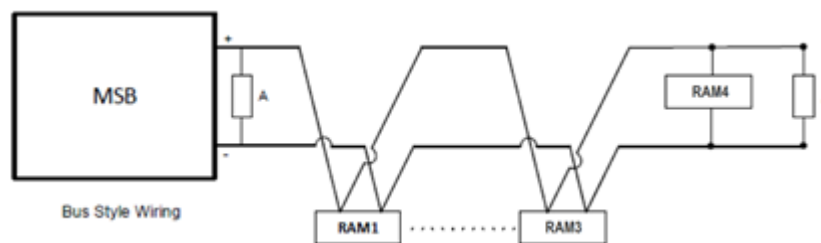
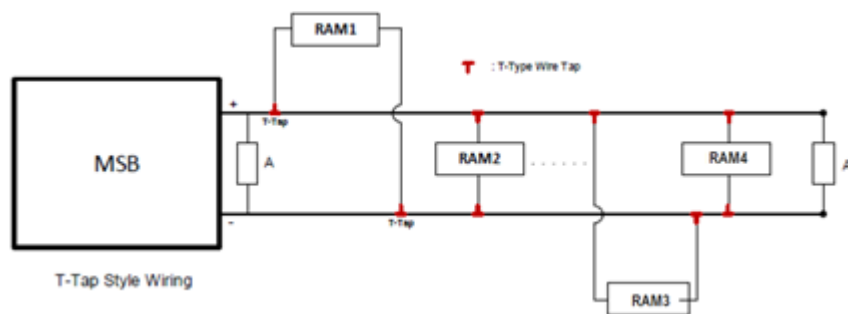

Figure 16: Bus style wiring
Figure 17: T-Tap style wiring
- For bus style wiring, the maximum wiring limit is 4,000 feet. For bus style wiring, see Figure 16. Figure 16 shows communication wiring only.
- For T-Tap style wiring, the maximum distance to the furthest device is 2,500 feet. For T-Tap style wiring, see Figure 17. Figure 17 shows communication wiring only.
- Attach 733-974 (100 ohm, 1/2 W) resistor A as shown in Figure 16 and Figure 17 for the line matching.